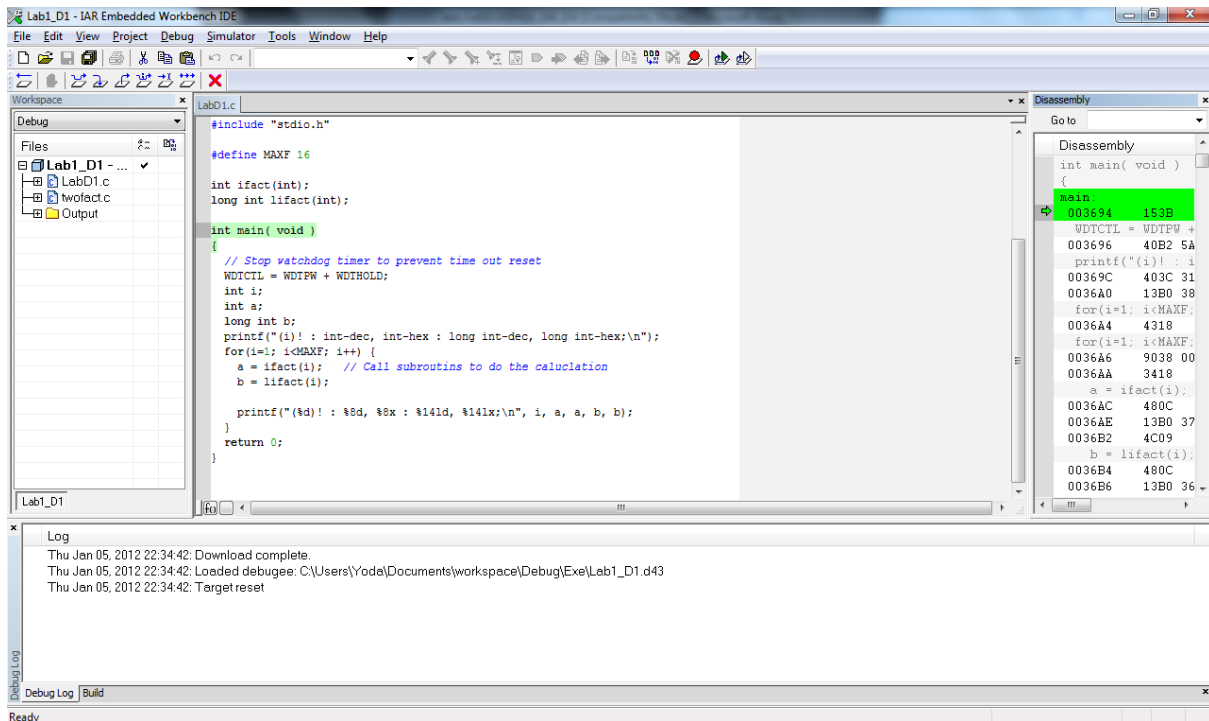

Figure 10. The C-SPY debugger main window.
Step 2. Choose *Project>Debug*. Alternatively, click the *Debugger* button in the toolbar. The IAR C-SPY Debugger starts with the lab1_D1.d43 application loaded. In addition to the windows already opened in the Embedded Workbench, a set of C-SPY-specific windows are now available (Figure 10).